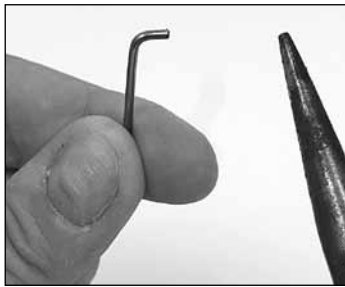

Figure 2
3. About 1/8" from an end of the hook, carefully bend a 90-degree angle with the pliers (Figure 2). Lay the hook between the rounded edges with the angled end in the groove. Apply a little glue to hold the hook in place.